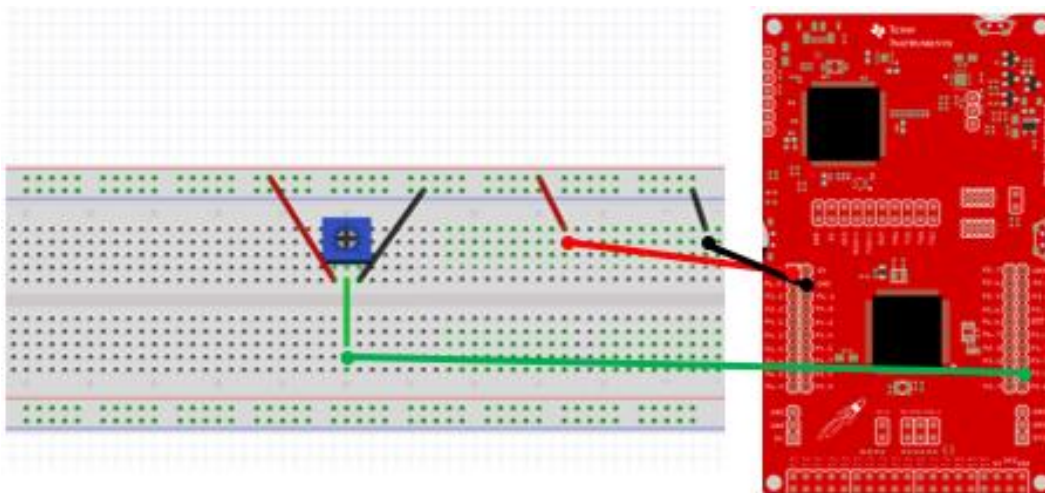

Fig. 5. Diagram of circuit for exercise 2
1. Build the circuit illustrated below and copy the code that follows into Energia. The blue square in figure 5 is a depiction of the potentiometer shown in figure 4.